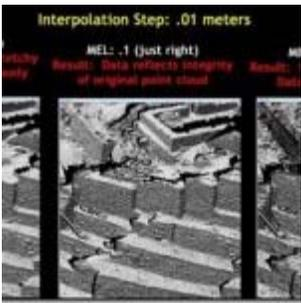

Figure 5: Example of different max edge length values and the effect of these values on data import
**Max Edge Length (Important):** The distance at which points are connected or meshed. Typically 10 x's or less the step or point spacing. A value that is too large can erroneously connect points that should not be connected (Figure 5, left) . Again, this value should be 10's the Step or less. Decreasing will result in less data being imported (Figure 5, Right).